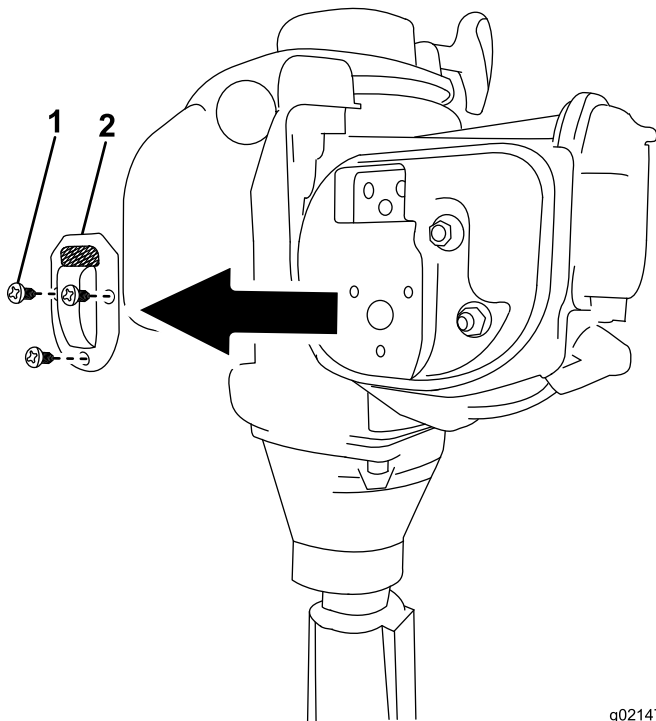

Figure 31
2. Remove the spark arrestor (Figure 31).